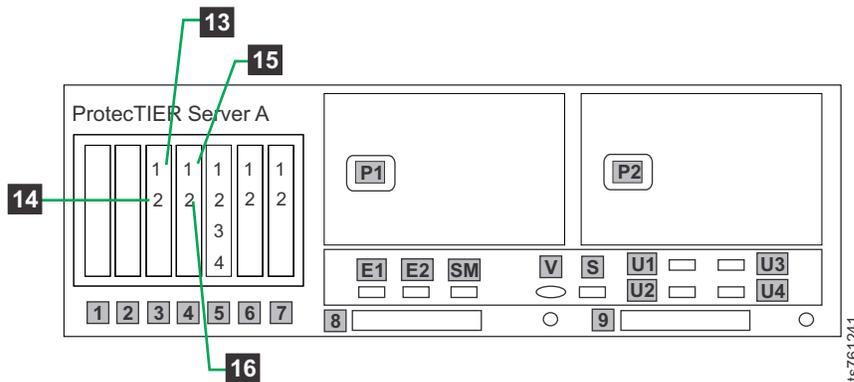

Figure 21. Customer and replication Ethernet connections for single node 10 Gb FSI configuration, Feature Code 3457
- b. Remove customer host network Ethernet connections that are labeled **13 - 16** in Figure 21. Not all of these connections might exist, depending upon the customer.